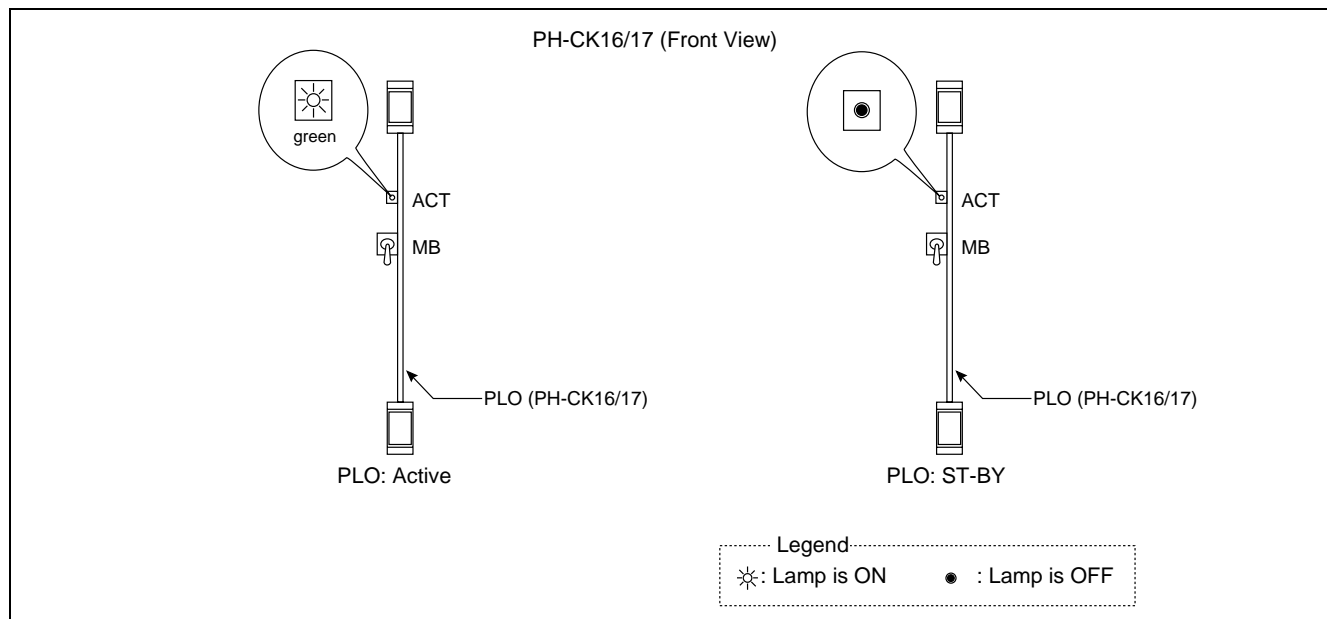

Figure 6-53 Check of Active PLO
- (2) If the system uses PH-CK16 or PH-CK17 as the PLO, make sure the active PLO and the newly activated TSW systems are in the same Switching Block. Refer to Figure 6-53.